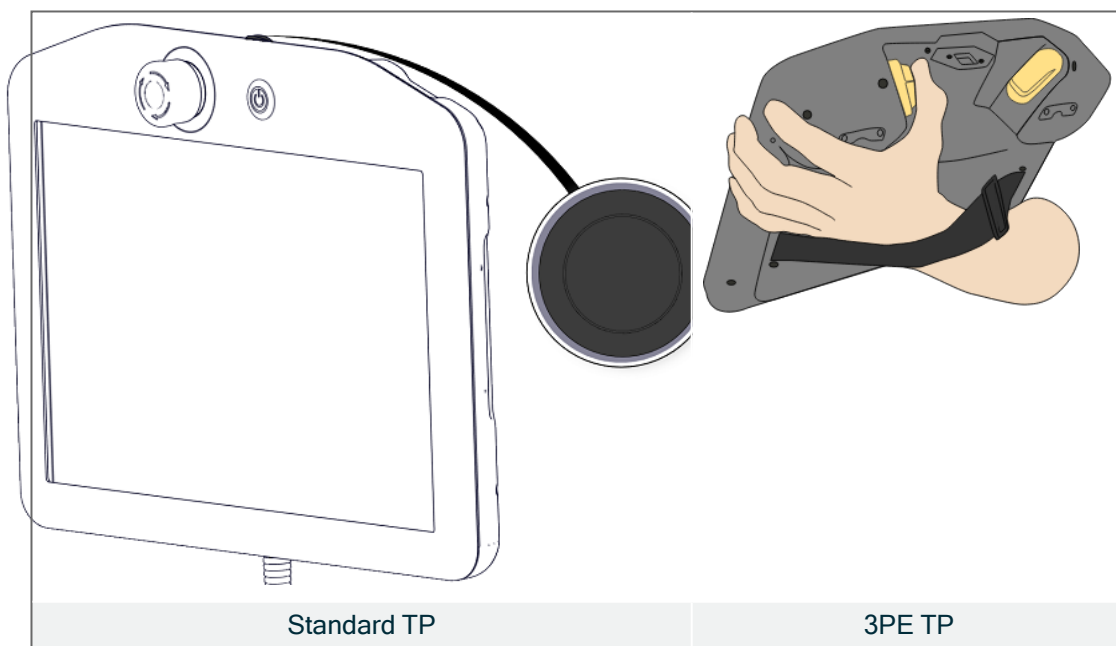

Figure 3.6. Freedriving a standard TP and 3PE TP.
2. Press and hold *Freedrive*. Status changes to *Backdrive*, as shown in figure 3.6.